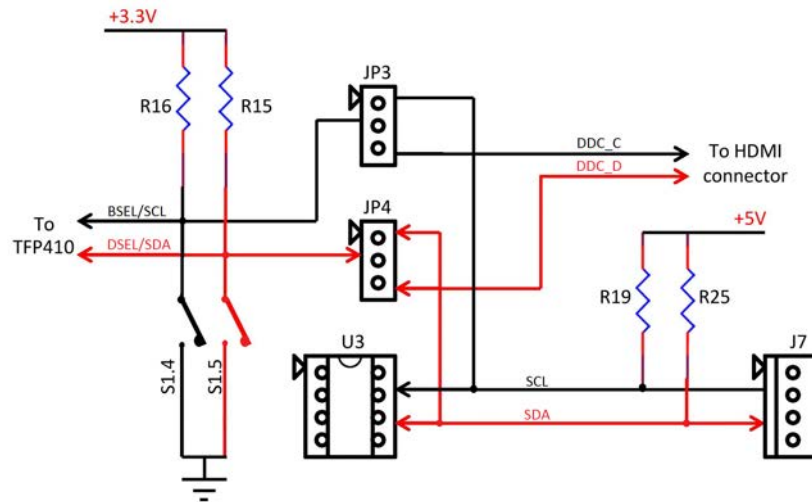

Figure 3-3. I2C and Device Addressing
- Header J7 is directly connected to U3 as shown in Figure 3-3, which allows implementation of external EDID ⁽⁷⁾ (it requires mounting PCF8582C-2 on board). When 12V is supplied to the EVM, SCL and SDA lines are pulled high to 5V by resistor R19 and R25 on the board. The SCL and SDA lines are also connected to pin 1 of JP3 and JP4 respectively. I2C device address of U3 can be configured by connecting the JP5 pins to either VSS or VDD. Refer PCF8582C-2 device datasheet for more details.